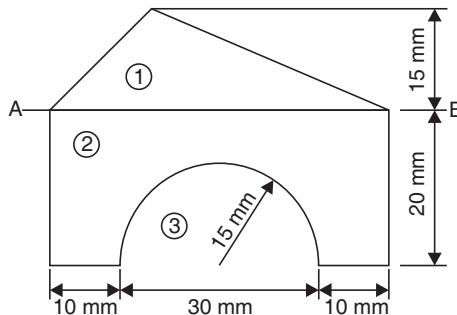

Fig. 8.26
**Example 8.7.** Find the moment of inertia and radius of gyration of the area shown in Fig. 8.26 about the axis  $AB$ .